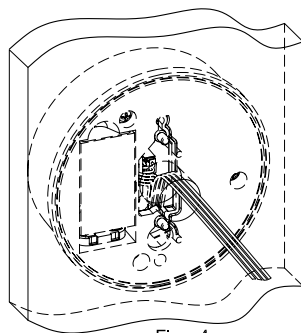

Fig. 4
**Note:** Make sure the connection cable is not trapped between the Keypad and the door or rubs or tangles on the mounting screws. (Fig.4)